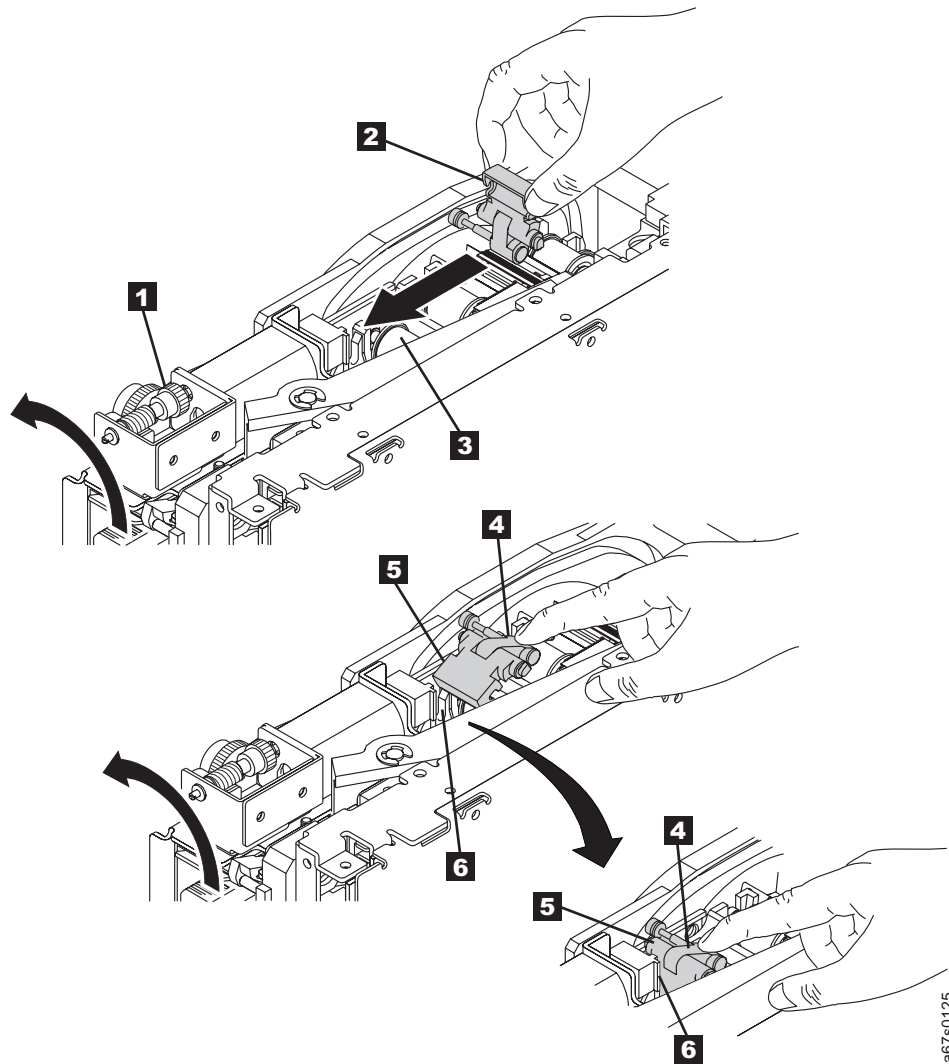

Figure 164. Guiding the leader pin into the tape cartridge
1. Manually rotate the loader motor gear (see **1** in Figure 164 on page 276) in the unload direction until the leader pin block **2** reaches the last roller **3**.